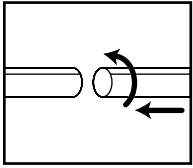

FIGURE 16
18. Attach the extension wands to the accessory end of the hose. Twist slightly to tighten the connection. **FIGURE 16.**
19. Attach one of the cleaning accessories (depending on your cleaning requirements) on the extension wands. Twist slightly to tighten the connection. **FIGURE 16.**